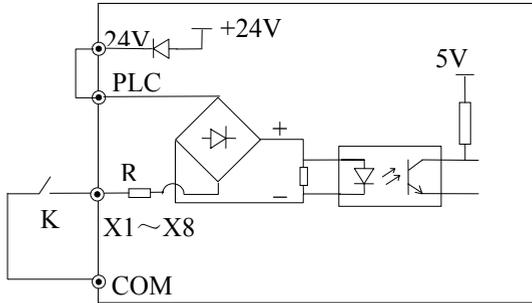

Fig 2-19 Using Internal 24V Power Supply
- 1) If internal 24 V power supply is used, the wiring is shown in Figure2-19(Attention: PLC and 24V must be firmly connected).